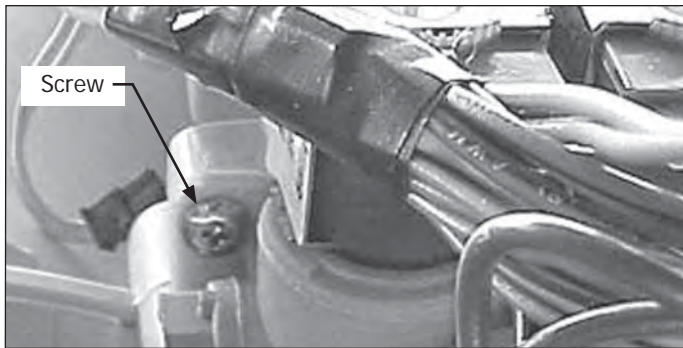

Figure 4-54.
4. Remove the (2) screws, one on each side, holding the water inlet valve assembly to the detergent dispenser housing. (See Figure 4-54)